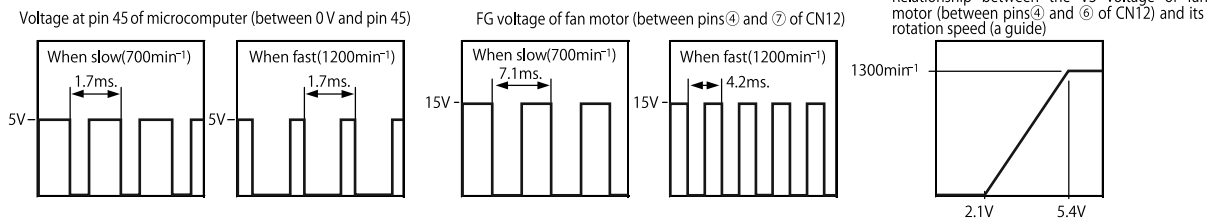

Fig. 2-2
- The indoor fan motor DC Voltage (VDC), Control Circuit Voltage (VCC), and Speed Control Voltage (VS) are supplied from connector CN12. FG is a feedback signal for an indoor fan motor frequency of rotation speed.
- The VS is controlled by the microcomputer (IC1). The VS terminal undergoes an analog voltage that matches the LO pulse signal at pin 45 of the microcomputer (IC1). (See Fig. 2-2.)